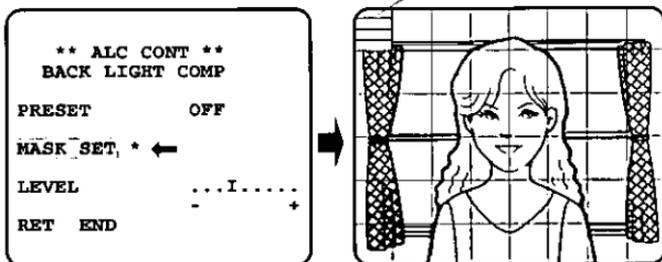

Fig. 34
- Move the cursor to the "MASK SET" mode position and press the Set Switch (9). The 48 Mask Areas appears on the monitor screen as shown in Fig. 34. The left top area has a blinking cursor.